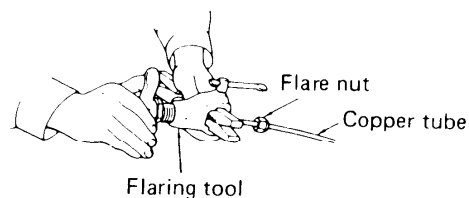

Fig. 22
- Make a flare at the end of copper tube with a flaring tool* Fig. 22 (*Use "RIGID" or equivalent.)